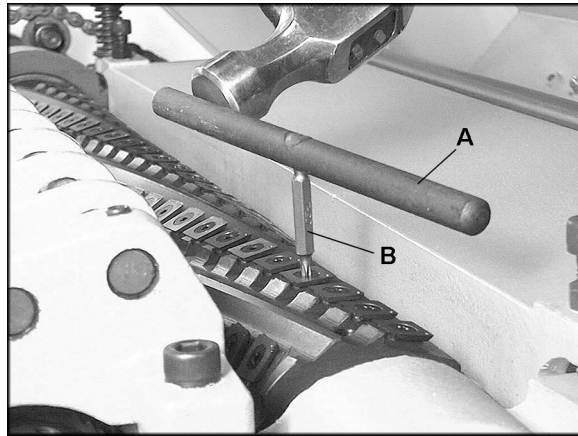

Figure 7
3. To remove a knife insert, unscrew the flat head screw with a spline screwdriver, or the air-operated screwdriver using one of the provided T-20 spline bits. If the screw will not budge, place the hole of the breaker rod (A, Figure 7) over a spline bit (B, Figure 7) and lightly tap the breaker rod counterclockwise with a hammer to break loose the screw.